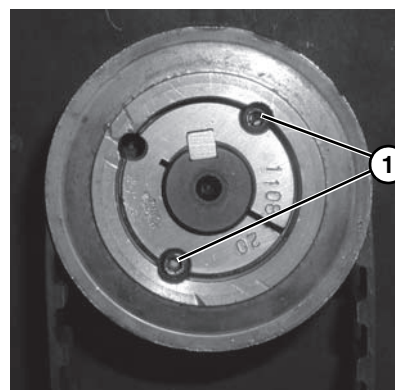

Figure 9
8. Tighten driven pulley taper-lock screws (**Figure 9, item 1**).